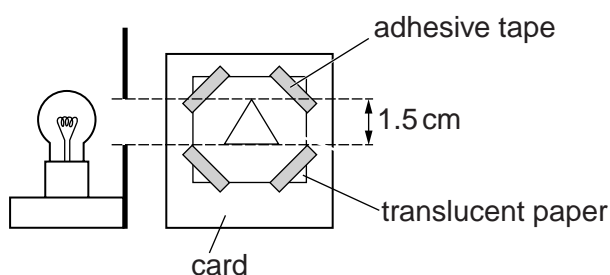

Fig. 4.1
- (iii) Illuminated object consisting of rigid card with a triangular hole of height approximately 1.5 cm (see Fig. 4.1). The hole is to be covered with thin translucent paper (e.g. tracing paper) secured with adhesive tape.